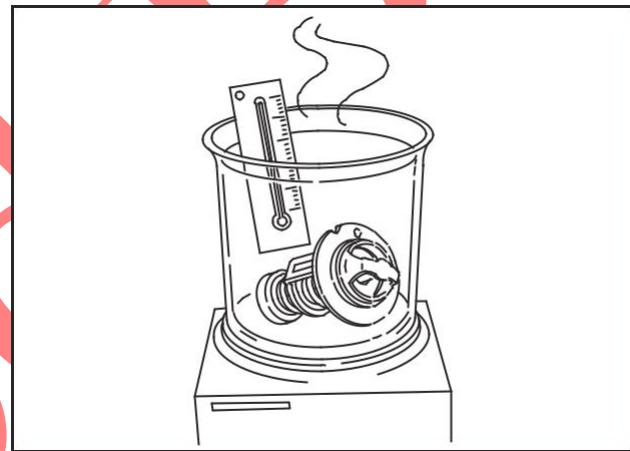

Fig. 4 – Checking Thermostat
2. Immerse thermostat in water and heat water gradually, Fig. 4.